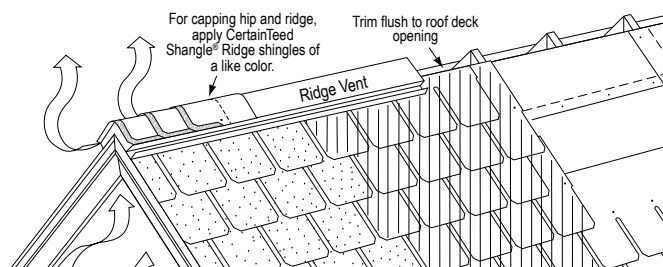

Figure 18-17: Installation of Shangle Ridge shingles on ridge vent.
- If shingle-over ridge vents are being installed (see Figure 18-17), they must match the 12" (305 mm) width dimensions of the hip and ridge caps. Be sure to follow the ridge vent manufacturer's instructions. To attach the cap shingles to the shingle-over ridge vent, use hot-dipped galvanized nails of sufficient length to penetrate 3/4" (19 mm) into, or through, the deck.